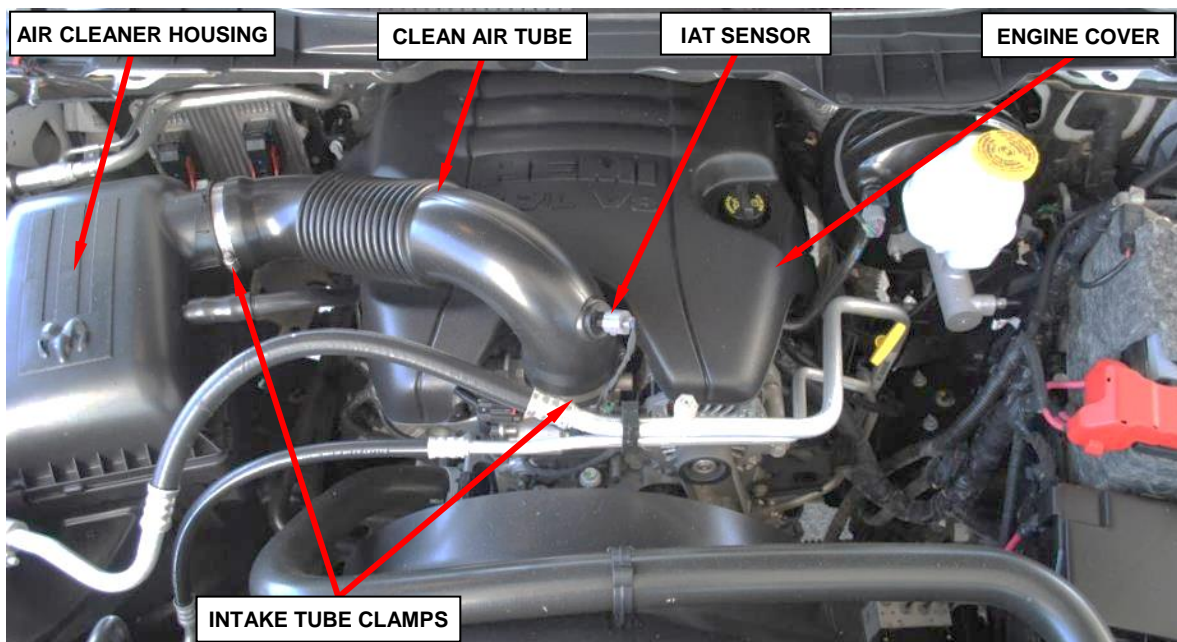

Figure 5 – 5.7L Clean Air Tube and Engine Cover
- a. Disconnect the Inlet Air Temperature (IAT) sensor (Figure 5).
- b. Loosen the clamps securing the clean air tube to the air cleaner housing and throttle body (Figure 5).
- c. Remove the clean air tube from the air cleaner housing and throttle body (Figure 5).
- d. Remove the engine cover by first lifting the front of the engine cover up to separate the engine cover front grommets from the ball studs on the intake manifold. Then slightly raise the front of the engine cover and slide forward to remove the rear engine cover pegs from the grommets on the rear of the intake manifold (Figure 5).